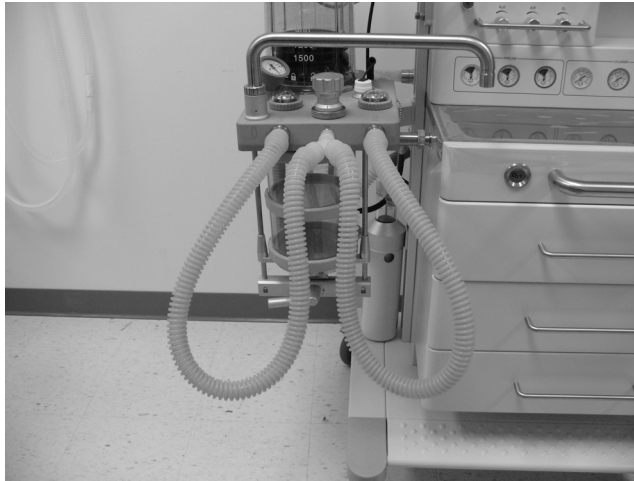

FIGURE 5-7 Connecting the Y-fitting to the Test Port
- b. Connect the Y-fitting to the Test Port (see FIGURE 5-7)